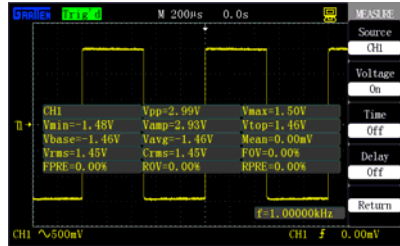

Figure 2-56 All measurement
5. Press “Voltage test” to select “Run”. At the moment, all the voltage parameter values will be simultaneously displayed on the screen. (As shown in figure 2-56)